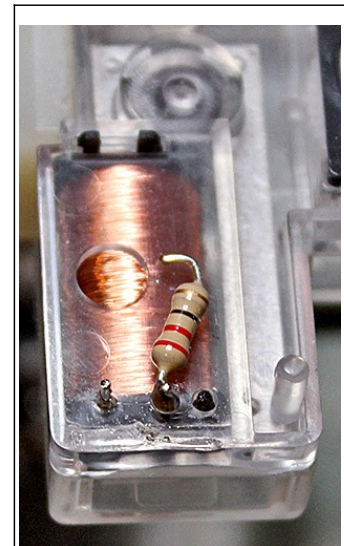

Fig. 38: Resistor soldered.
- ☐ Cut each lead ¼" beyond the bend. Orient the movement with the motor terminals closest to you, as shown in **Fig. 38**. Lay the resistor on the clear housing so the near lead bends toward the right. Use needle nose pliers to loop this lead around the right-hand motor terminal. Solder the resistor to the terminal. The other resistor lead should point toward the hole in the housing.